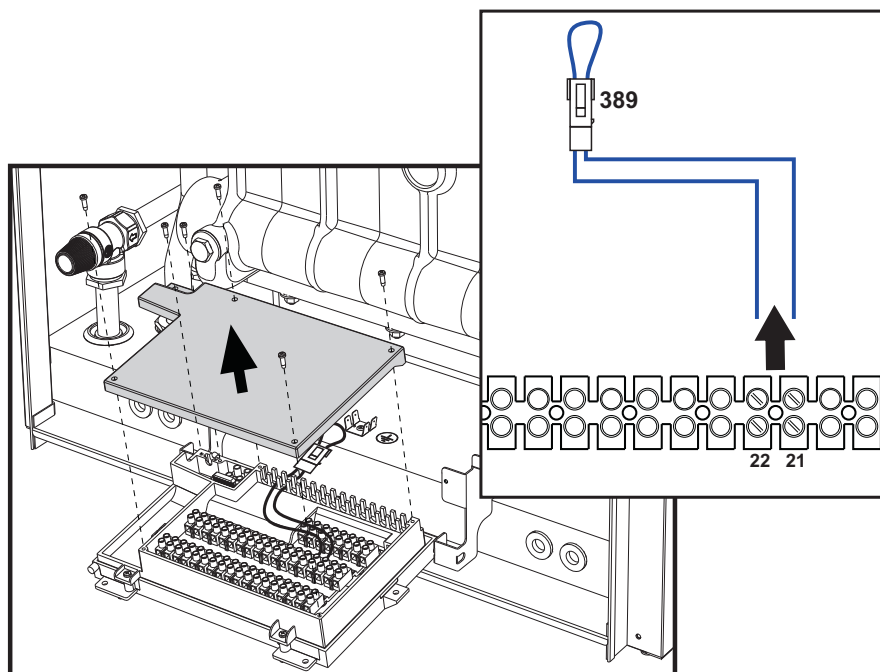

fig. 95
ATTENTION: Before connecting the room thermostat or the remote timer control, remove the connection (ref. 389 fig. 95) from terminals 21 and 22 on the terminal block.